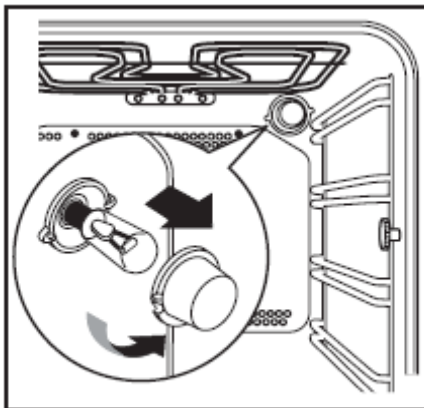

Fig. 10
2. Rotiti carcasa de sticla in sens invers acelor de ceasornic (Fig.10)